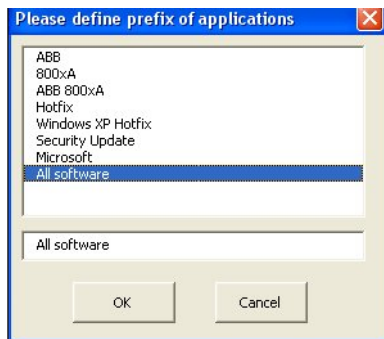

Figure 86. Create Node Application Relation
Figure 86 shows the selected Create Node Application Relation.
- 4. Select the application to be compared and click **Ok**, see Figure 86.